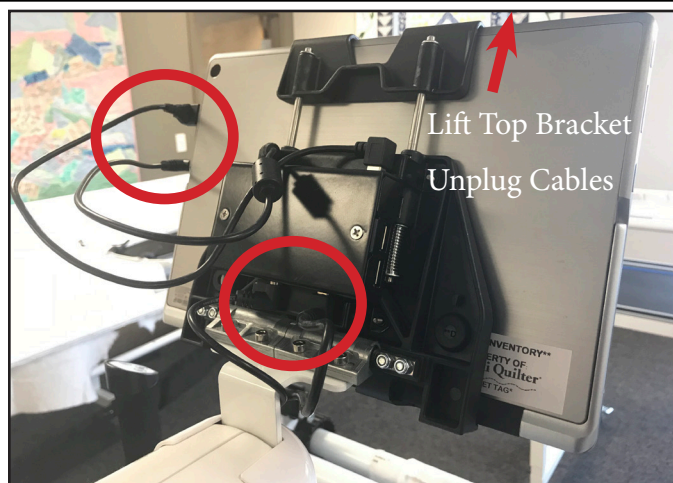

Figure 15
1. Remove the USB and power cables from the tablet. (*Figure 15*)
4. Lift up on the top bracket and slide the tablet out of the bracket. (*Figure 15*)